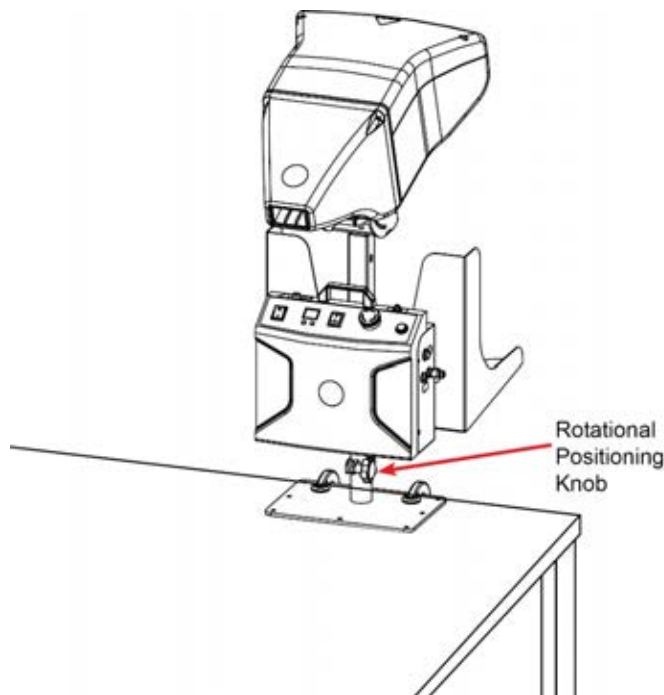

Figure 15 Positioning the Table-Top Dispenser Head
1. Turn the Rotational Positioning Knob three turns counterclockwise to loosen the **Dispenser** Stand Positioner (refer to Figure 15).
3. Tighten the Rotational Positioning Knob by turning it clockwise (refer to Figure 15).